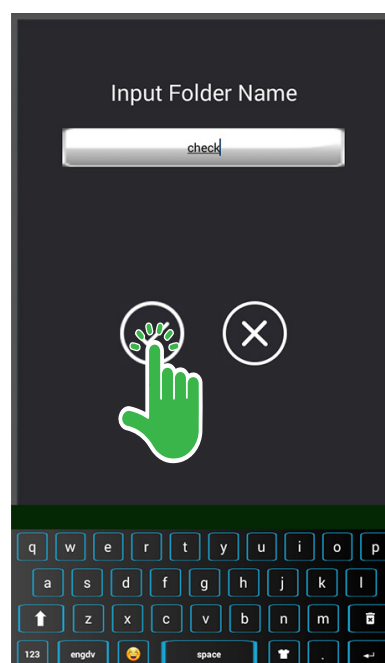

Fig. 34
- Type the new folder name and touch OK (Fig. 34).